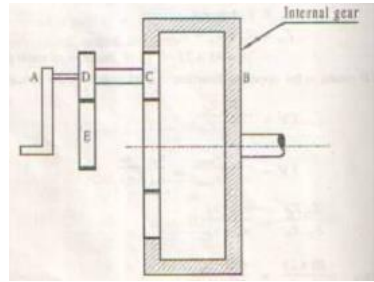

Fig. 4.3
- A fixed annular wheel B has 92 teeth. Wheel C and D have 25 and 15 teeth respectively. Wheel E has 52 teeth, if the arm A rotates at 130 rpm, what is the speed of wheel E shown in the figure 4.3. (solve it by algebraic method)